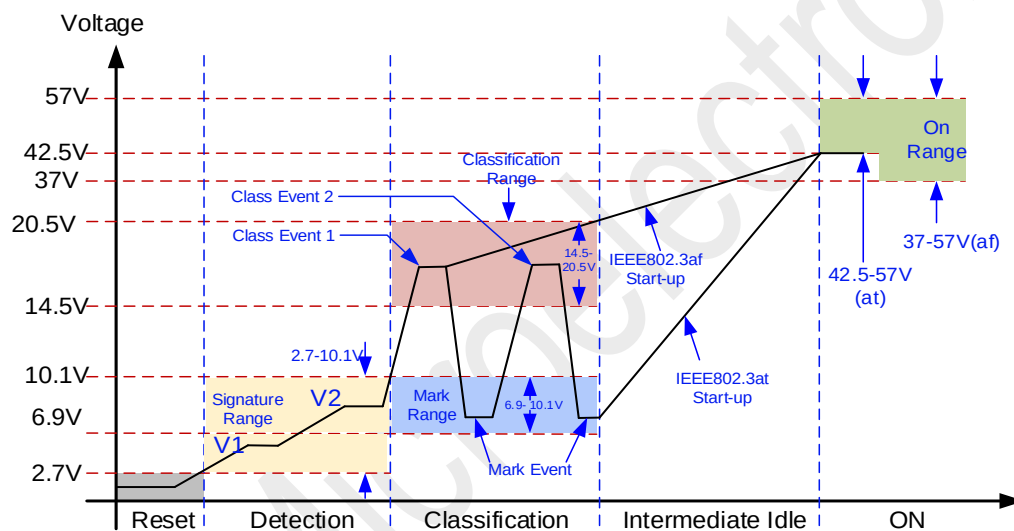

Figure 3 PD Interface Operation Description
Compared with IEEE802.3af, the IEEE802.3at standard establishes a higher power allocation for Power-over-Ethernet while maintaining backwards compatibility with the existing IEEE802.3af systems. Power Sourcing Equipment (PSE) and Powered Devices (PD) are distinguished as Type-1 complying with the IEEE 802.3af power levels, or Type-2 complying with the IEEE 802.3at power levels. IEEE802.3af/at standard establishes a method of communication between PD and PSE with detection, classification and event mark. TMI7303B provides a complete interface for a powered device (PD) to comply with IEEE 802.3af/at standard in a PoE system. Along with the PSE it operates as a safety device to supply voltage only when the power sourcing equipment recognizes a unique, tightly specified resistance at the end of an unknown length of Ethernet cable. After powered from PSE, the PD will regulate the output voltage based on application with isolated or non-isolated topology. Figure 1 shows the function diagram of this device, and Figure 3 shows typical PD interface power operation sequence.